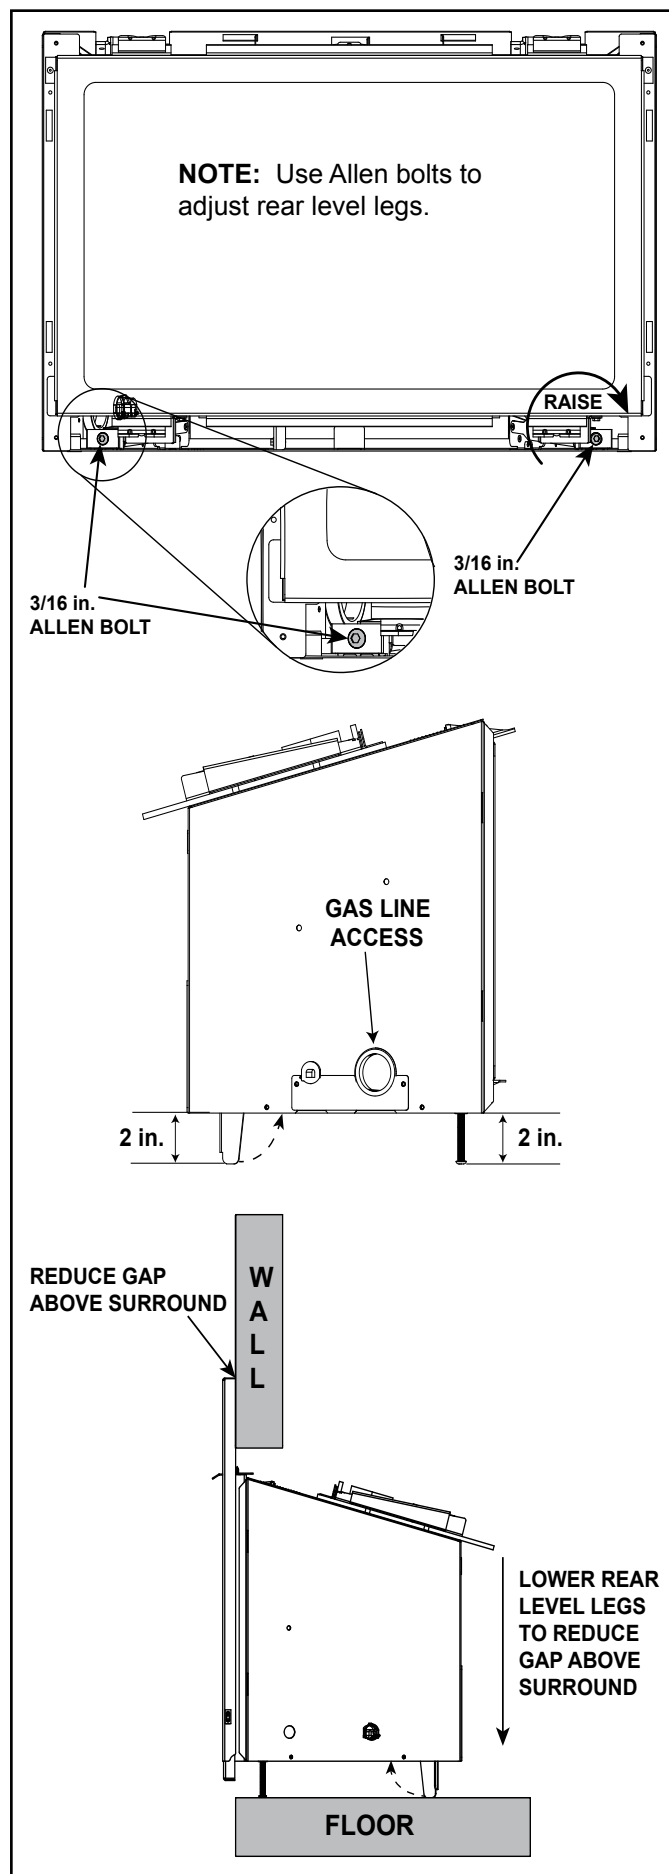

Figure 5.6 Leveling Leg Detail
- Install gas line into hole provided on side. See Figure 5.6.